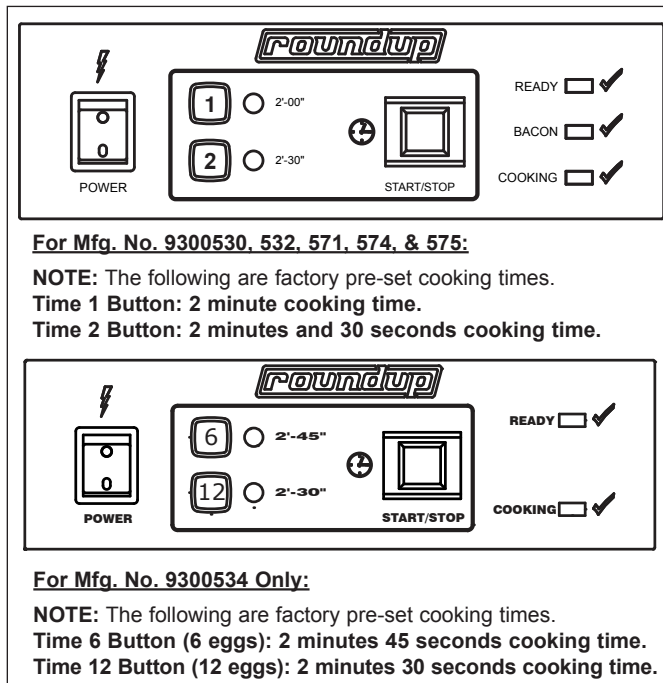

Figure 4. Time Selector Switch
8. Select the desired cooking cycle (Figure 4).
Use a two-minute cycle for room temperature eggs or the two-and-a-half-minute cycle for refrigerated eggs (Figure 4 top).
Select 6 for six eggs or 12 for twelve eggs (Figure 4 bottom)